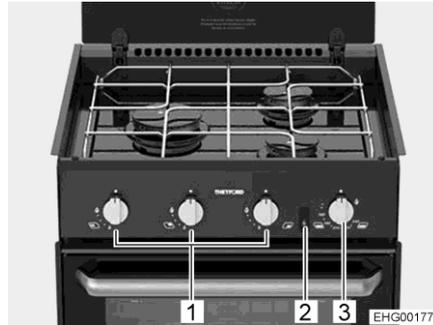
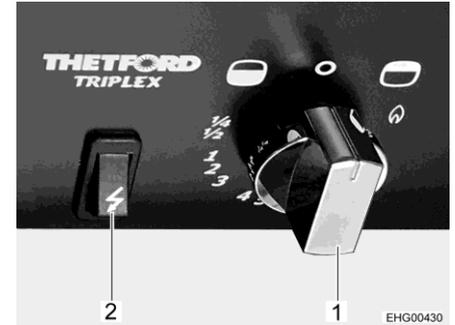

Fig. 256 Cooker with gas burners
Fig. 257 Operating controls (gas oven with grill)
- Press control knob (Fig. 256,1) of the desired burner, turn it to the ignition position (large flame), and hold it until the flame is burning (for a maximum of 15 seconds).
- Press the control knob (Fig. 256,3 and Fig. 257,1) and set it to the maximum setting anticlockwise (towards the oven symbol "🔥").
- Press the control knob (Fig. 256,3 and Fig. 257,1) and hold it down for 5 to 10 seconds. Gas will stream into the burner.
- Keep the ignition switch (Fig. 256,2 and Fig. 257,2) pressed until the flame burns.
- Press the control knob (Fig. 256,3 and Fig. 257,1) and turn it clockwise (towards the grill symbol "🔥") in the direction of the flame symbol.
- Turn control knob (Fig. 257,1) to "0". The flame fades.